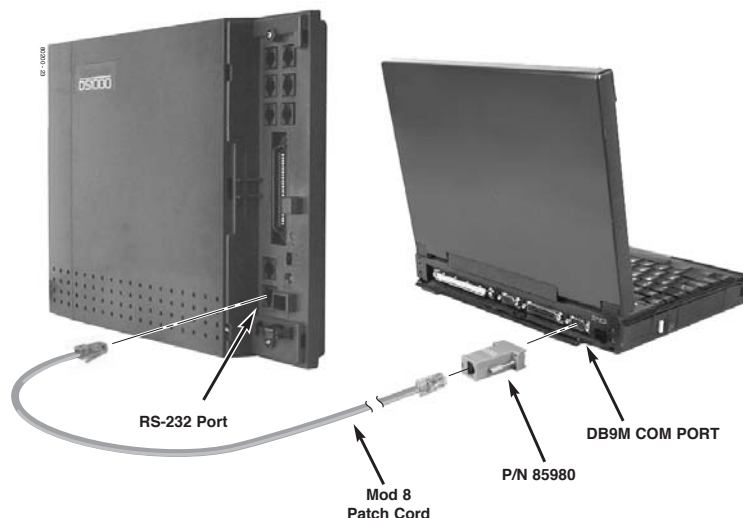

Figure 5-1: Connecting a PC or Laptop
**To connect the PC or laptop to your system (Figure 5-1):**